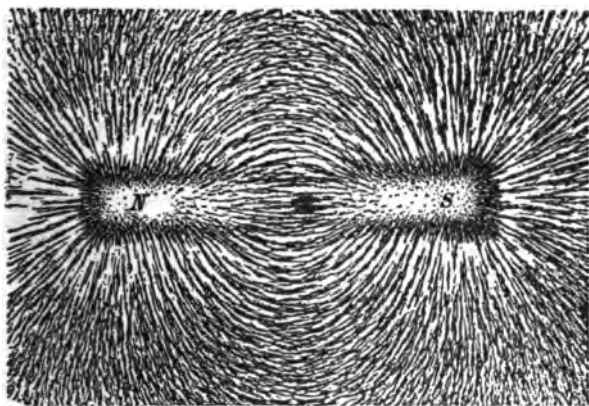
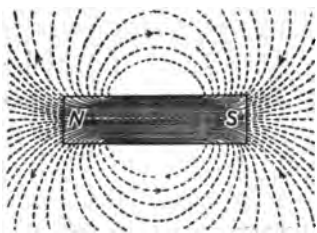
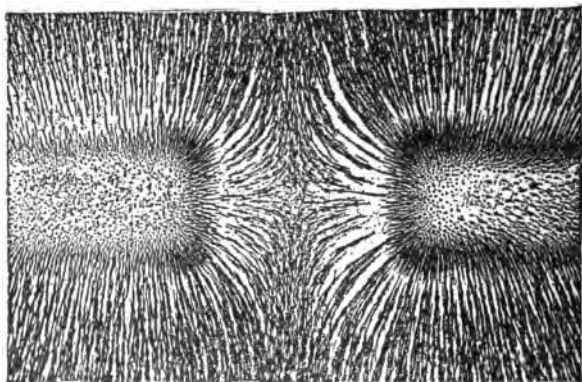

FIG. 179.—Iron filings on paper over a bar magnet.
FIG. 180.—Diagram of the field of a bar magnet.
FIG. 181.—Magnetic field between like poles showing repulsion.
Magnetic lines of force may be observed by placing a magnet upon the table, then laying upon it a sheet of paper and sprinkling over the latter fine iron filings. On gently tapping the paper, the filings arrange themselves along curved lines extending from one end of the magnet to the other. These are called the *magnetic lines of force*. (See Fig. 179.) The space about a magnet in which the magnetic lines are found is called the *magnetic field*. (See Fig. 180.)
(B) Magnetic lines of force are believed to form “closed curves” or to be continuous. The part outside of the magnet being a continuation of the part within the magnet. (See Fig. 180.)
same in both directions. It has therefore been agreed by physicists to indicate by an arrow head (Fig. 180), the direction that a north-seeking pole tends to move along a line of force. The lines of force are considered as leaving the north-seeking pole of a magnet and entering the south-seeking pole. (See Figs. 181 and 182.)